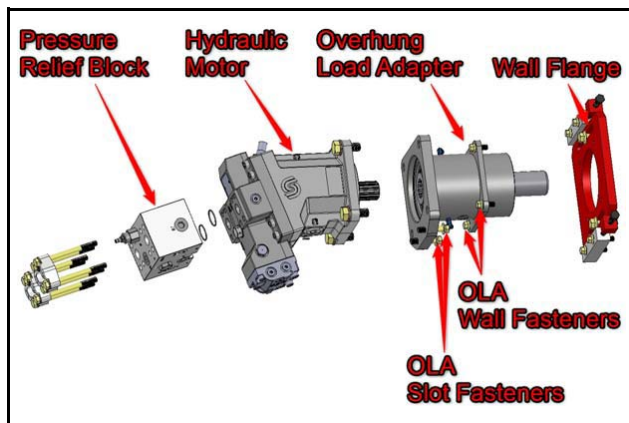

Figure 27
2. Remove all the hydraulic hoses off the hydraulic motor and pressure relief block; The fasteners holding the hoses on the pressure relief block also hold the block on the hydraulic motor **[Figure 27]**.